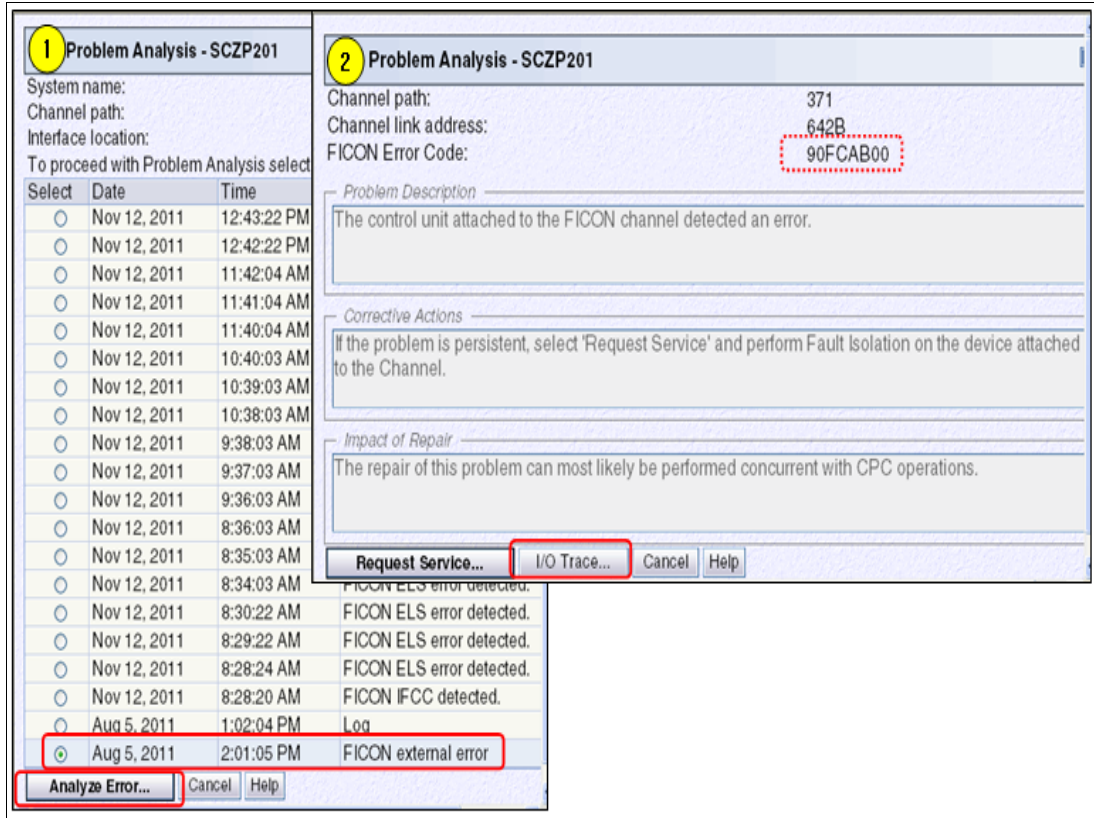
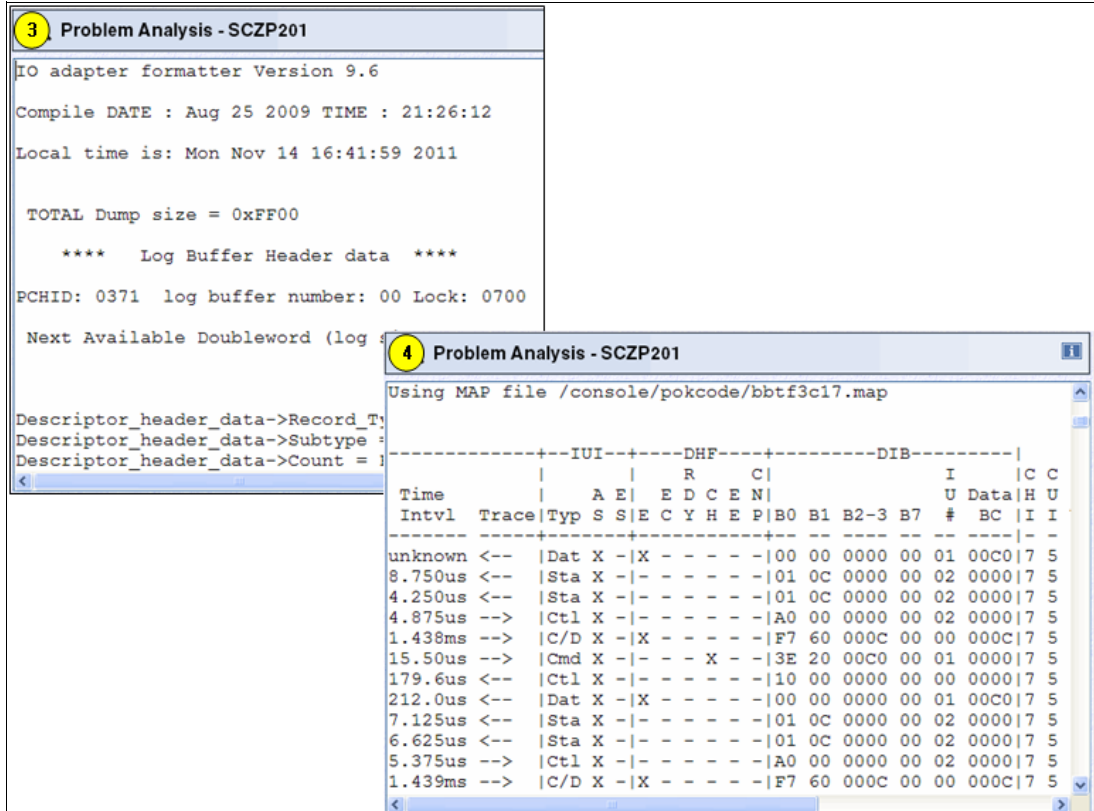

Figure E-26 FICON External error panel(1/2)
Figure E-27 FICON External error panel(2/2)
When you want to examine a FICON External error, follow these steps to open the FICON External error shown at the Figure E-26 on page 460 and Figure E-27 on page 460:
4. The Problem Analysis window gives an error code(90FCAB00),a description of the causes of the error and a possible corrective action as shown at Figure E-26 on page 460. To see the trace taken at the time of the error, click **I/O Trace** or **More information** depending on the panel, as shown at Figure E-27 on page 460.